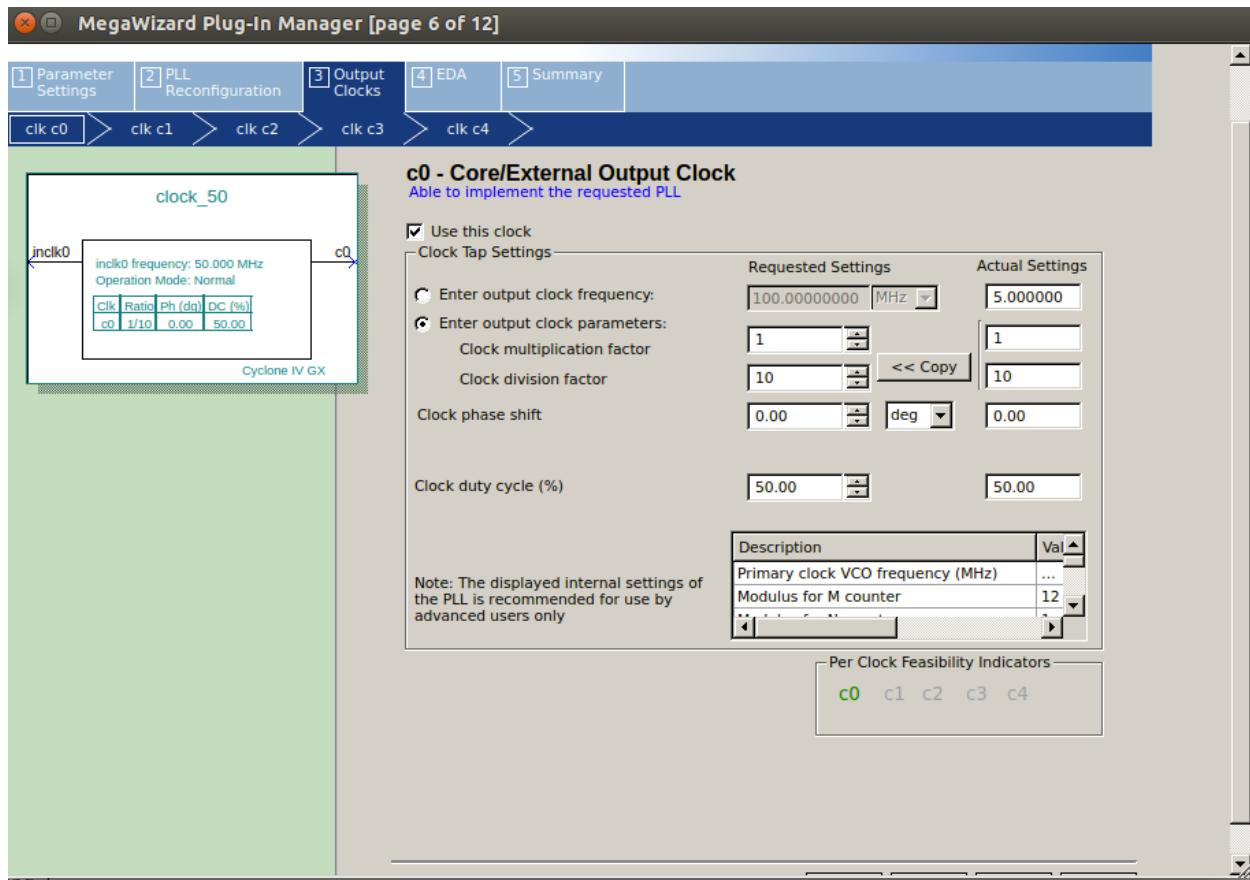

fig 3.1.10
27. Choose output **clocks** -> **clk c0** and change Clock division factor input to 10. See fig 3.1.10